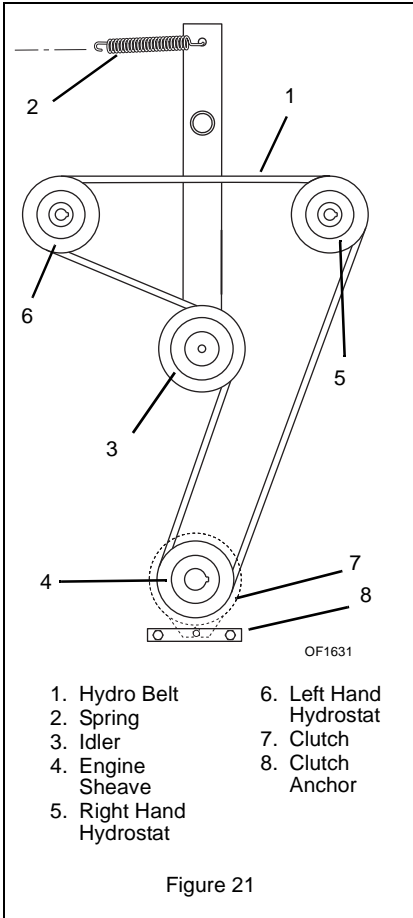

Figure 21
- Remove old hydro pump belt from right hand hydrostat sheave first (Figure 21).